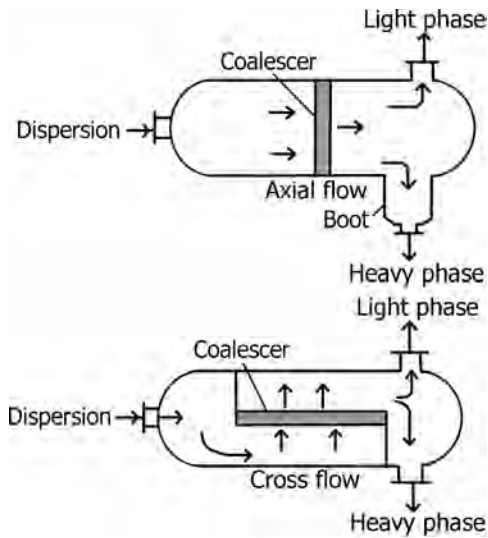

FIGURE 16.42 Coalescer plate pack orientations.
- The coalescer packs may be placed across the axis of the vessel to achieve axial flow of the liquid through the media or, where a greater area is required, it may be placed along the central axis and the liquid sent in a cross-flow arrangement, as shown in Figure 16.42.